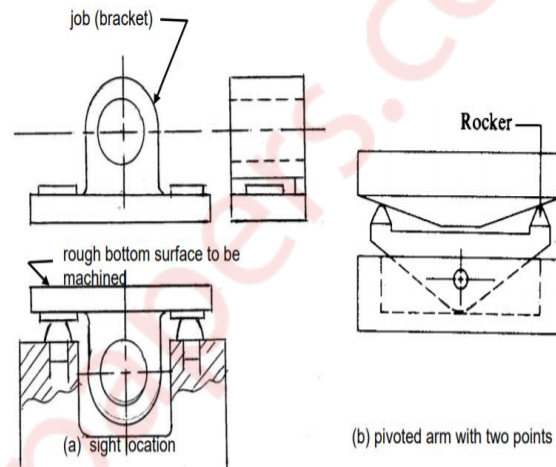

Fig. 8.1.7 (a) Sight location and (b) location by pivoted points (equalizer)
- ✓ Sight location is applicable to first - operation location of blank with irregular surfaces produced by casting, forging etc. as indicated in Fig. 8.1.7 when the bracket is first located on two edges to machine the bottom surface which will be used for subsequent locating.